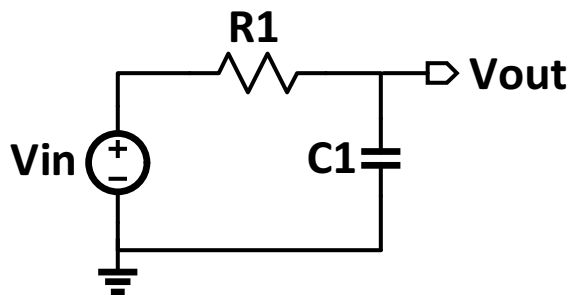

Figure 7: First Order RC Filter
1. Build the first-order RC circuit shown in Fig. 7 on the breadboard. Use the same values of resistors and capacitors computed in section 3.1.